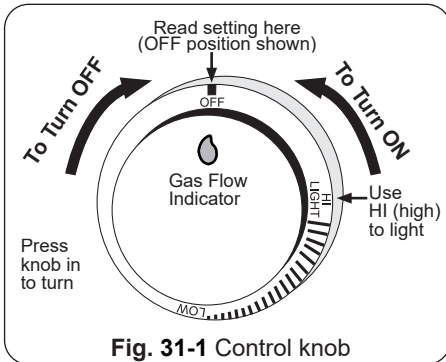

Fig. 31-1 Control knob
**For your convenience and safety, when the control knob is turned to the on position, the gas flow indicator will change from blue to red. (Red indicates gas flow.) See Fig. 31-1.**